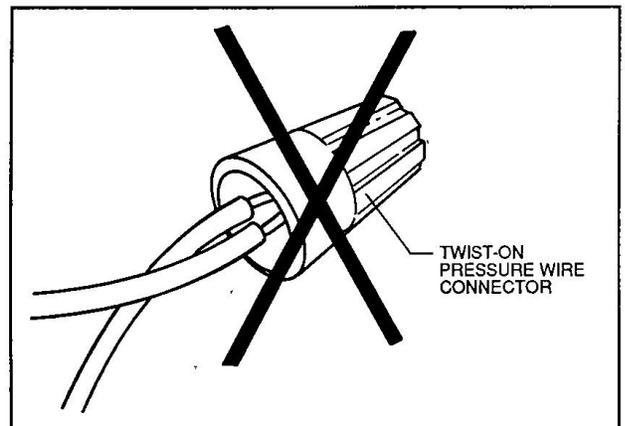

Figure 2
- Installing pigtailed with conventional "wire-nuts" (see figure 2) is NOT acceptable — even if it is "UL listed."